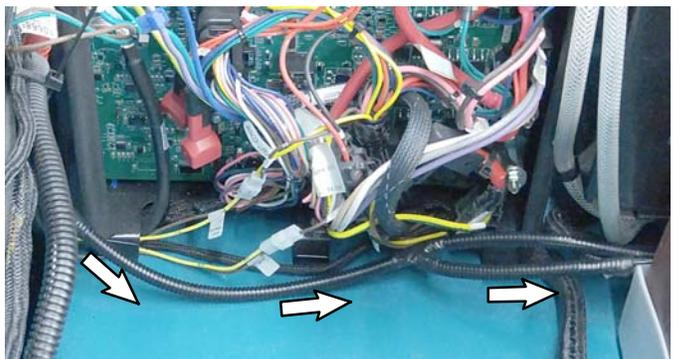

FIG. 18
19. Route telemetry harness next to the main wire harness and along the bottom and side of the circuit board assembly. Use cable ties (11) to secure telemetry harness to the main wire harness. (FIG. 18)